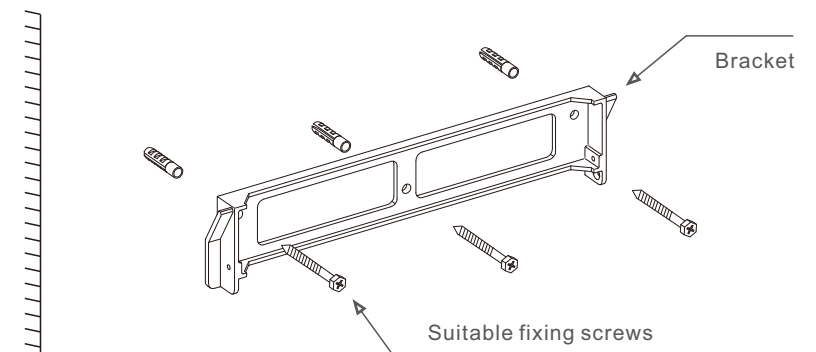
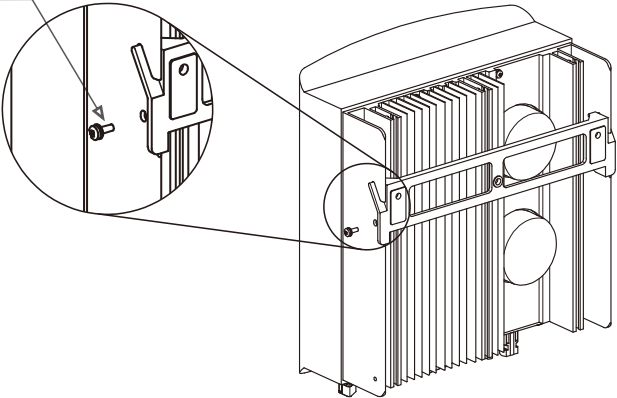

Figure 4.4 Inverter wall mounting
Figure 4.5 Wall Mount Bracket
Please see Figure 4.4 and Figure 4.5 for instruction on mounting the inverter..
2. Make sure the bracket is horizontal. And the mounting holes (in Figure 4.4) are marked correctly. Drill the holes into wall at your marks.
4. Lift up the inverter (be careful to avoid body strain), and align the back bracket on the inverter with the convex section of the mounting bracket. Hang the inverter on the mounting bracket and make sure the inverter is secure (see Figure 4.5).